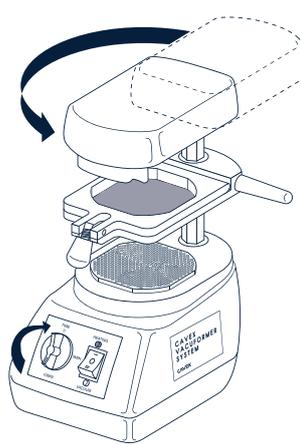

Fig. 5
5. Rotate the heating element to the front and switch it on by setting the timer for approx. 5 minutes** (Fig. 5).